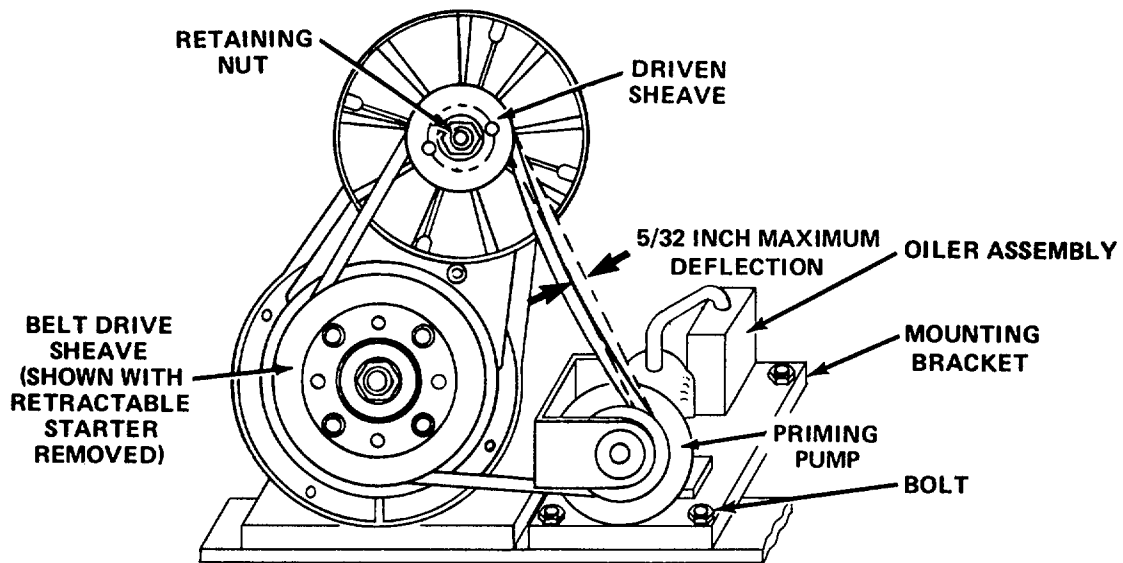

Figure 4-2. Belt Tension and Replacement
- d. Check fan belt tension by pushing fan belt in at point shown in figure 4-2. Verify that fan belt deflection is 5/32 inch.
- (1) Loosen the four bolts on the priming pump mounting bracket and the two bolts on the priming pump stabilizer bracket.
- (2) Slide the priming pump out to tighten fan belt.
- (3) When fan belt deflection is 5/32 inch, tighten the four bolts on the priming pump mounting bracket and the two bolts on the priming pump stabilizer bracket (see table 4-3).
- (2) Using a spanner wrench, hold fan pulley while removing nut and washer (see figure 4-2).